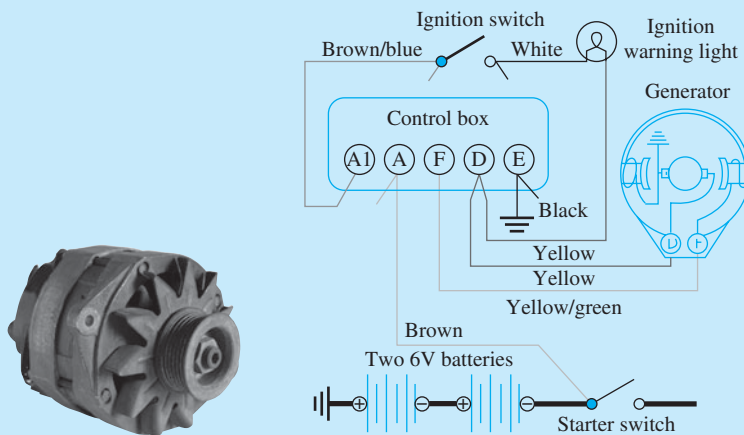

FIGURE 13.27 Car generator (Used with permission from © INSADCO Photography/Alamy.) and battery charging circuit.
The battery is charged by the car itself. In the engine, the chemical energy of the fuel is converted into mechanical energy (rotary motion) available at the crankshaft. This is delivered to the input of the alternator using a fan belt. The shaft of the alternator has a cylindrical structure and has electric conductors on its periphery attached to it. Thus, it forms the rotor of the car's generator. The rotary movement at the input causes the rotor to move, and therefore, the conductors cut the magnetic flux present inside the alternator, and electricity is generated. This electrical energy is fed to rectifiers that convert alternating (time varying) voltage at the alternator to constant (DC) voltage required to charge the battery. Rectifiers were studied in Chapter 8. Figure 13.27 represents the car generator structure and the circuit for charging the battery.